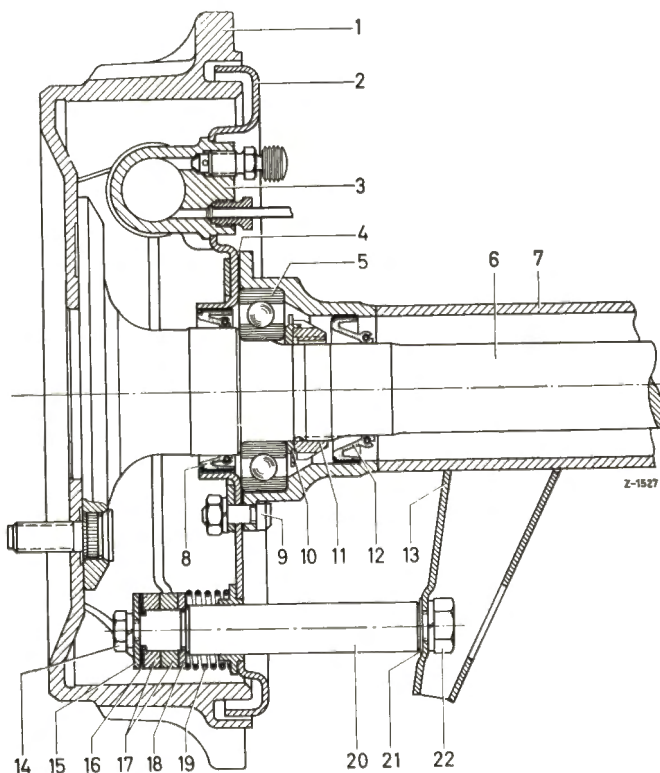

Fig. 35-3/1
4. Unscrew the hexagon screw (22) on the bracket (13) supporting the brake anchor plate and remove together with the lock washer and the washers (21) (Fig. 35-3/1).